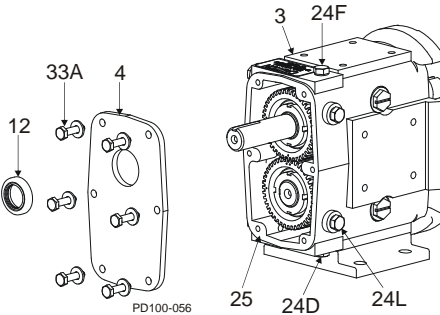
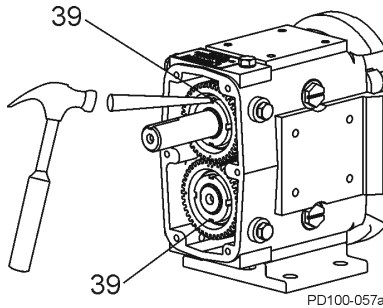

Figure 68 - Remove Gear Case Cover
Figure 69 - Straighten Lock Tab on Lock Washers
1. Remove the oil drain plug (Figure 68, item 24D); drain the oil.
2. Remove the cap screws from the gear case (Figure 68, item 33A).
3. Pull the cover (item 4) off the shaft extension. If the cover sticks, use a soft hammer to loosen it.
4. Remove the silicone sealant (item 25) from the gear case and cover.
5. Using an arbor press, remove the oil seal (item 12) from the cover. Discard the used oil seal.
6. Straighten the tab on the lock washers (Figure 69, item 39).